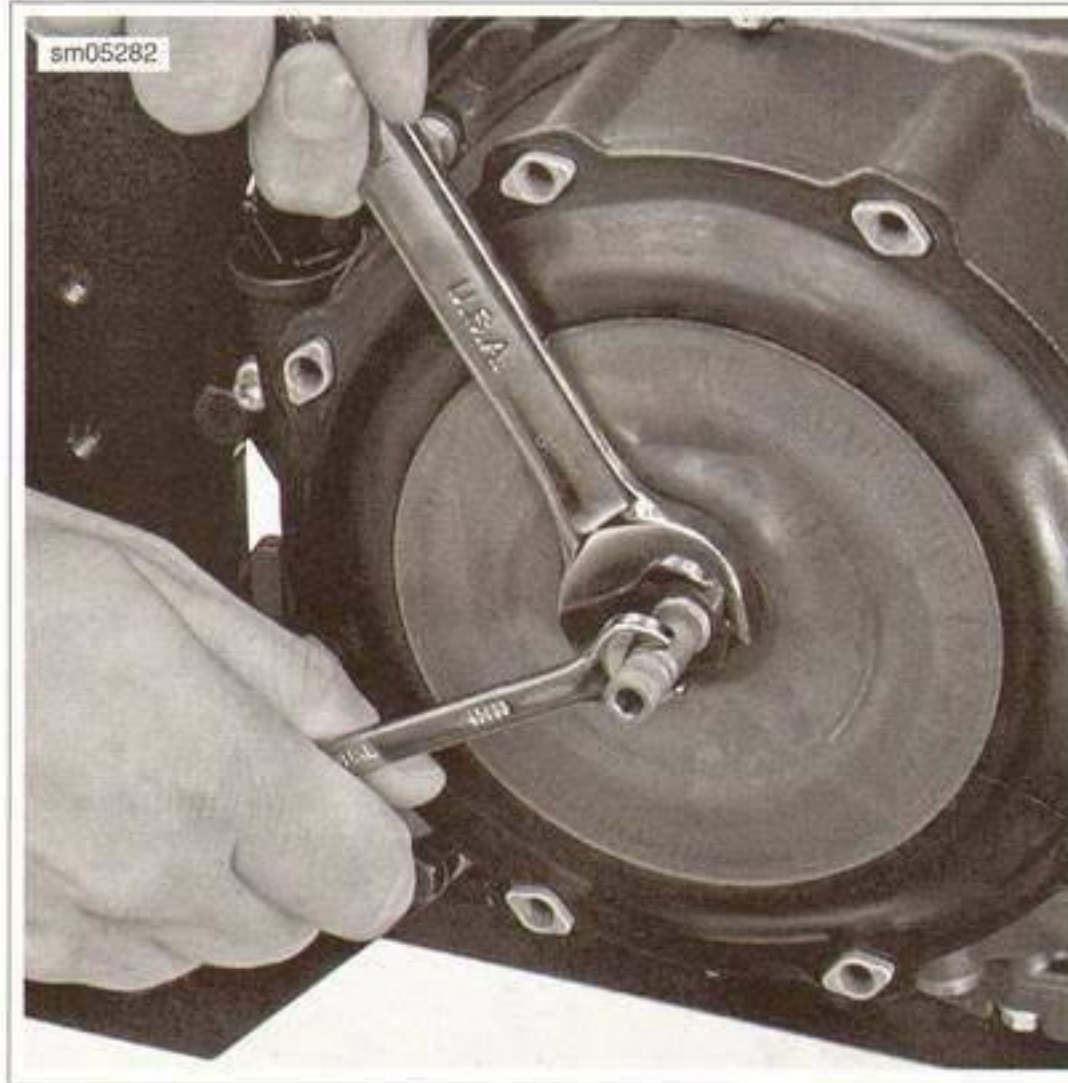

Figure 6-29. Removing the Neck Nut from the Clutch Release Pin
2. See Figure 6-29. Hold the flat on the clutch release pin and turn off the nut.